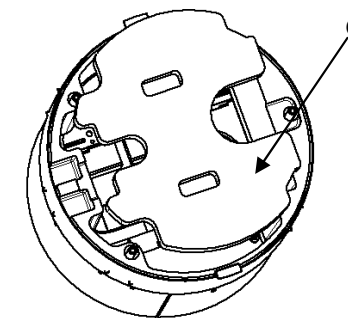

Fig. 8
12. Install intumescent (O) noting orientation in Fig. 8. **Note: To maintain fire classification, intumescent (O) must be installed.**